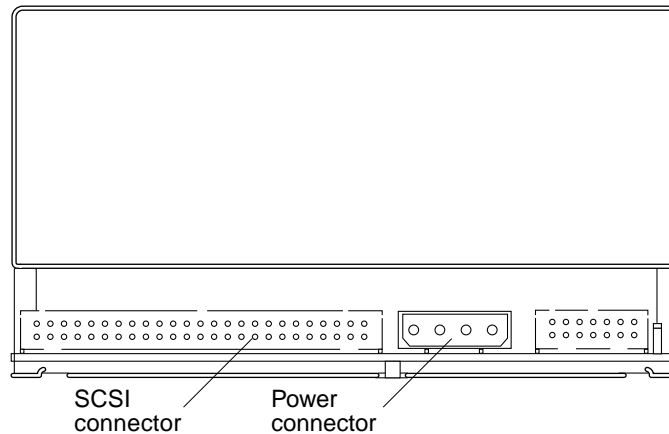

Figure 2-1 Back of DLT4000 tape drive
- a. Connect the SCSI and power cables to the connectors on the back of the tape drive (Figure 2-1).**